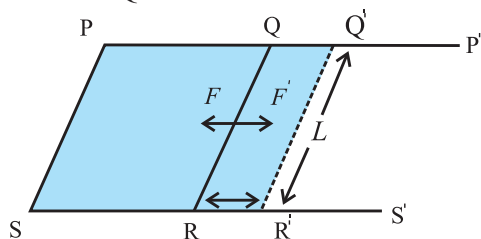

Fig. 2.17: Surface energy of a liquid
**c) Relation between the surface energy and surface tension:** Consider a C shaped frame of wire P'PSS'. It is fitted with a movable arm QR as shown in Fig. 2.17. This frame is dipped in a soap solution and then taken out. A film of soap solution will be formed within the boundaries PQRS of the frame.